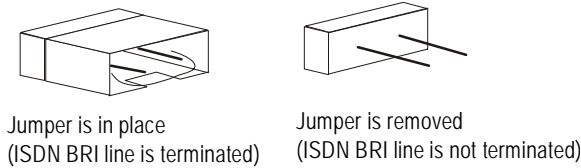

Figure 2. Termination Jumpers
Set jumpers as follows (See Figure 2 for details):
- ◆ Dialogic does not support any configuration except the two illustrated in Figure 2.